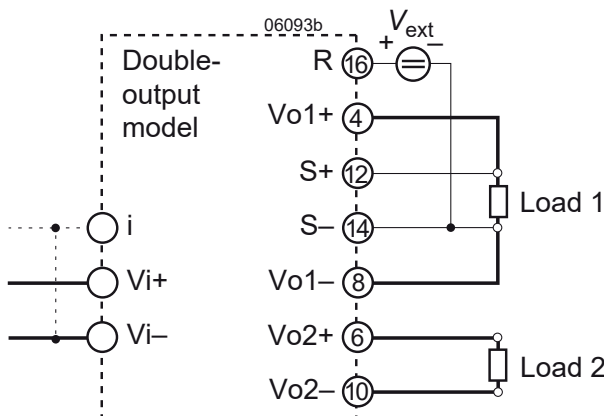

Fig. 20 Output adjust using an external control voltage  $V_{\text{ext}}$
a) Adjustment by means of an external control voltage  $V_{\text{ext}}$  between R (pin 16) and S– (pin 14); see fig. 20.